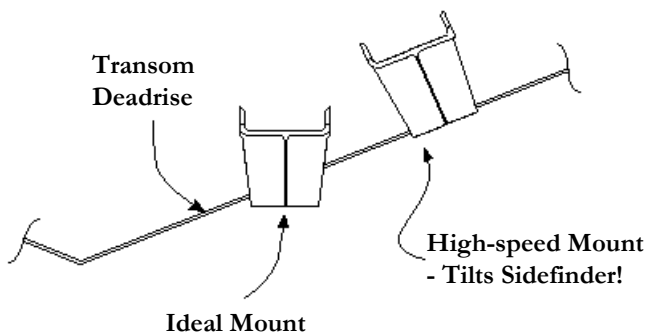

Figure 1. *Transducer transom mounting options*
- Sometimes, during high-speed operation, a transducer hanging too far below the bottom edge of the transom can cause drag and *rooster tails*. If you typically operate your boat at high speeds, you may want to tilt the transducer so the face is parallel with the deadrise of the boat (see Figure 1). If after following the above instructions, you still have performance problems at high speeds, further suggestions can be found on page 7.